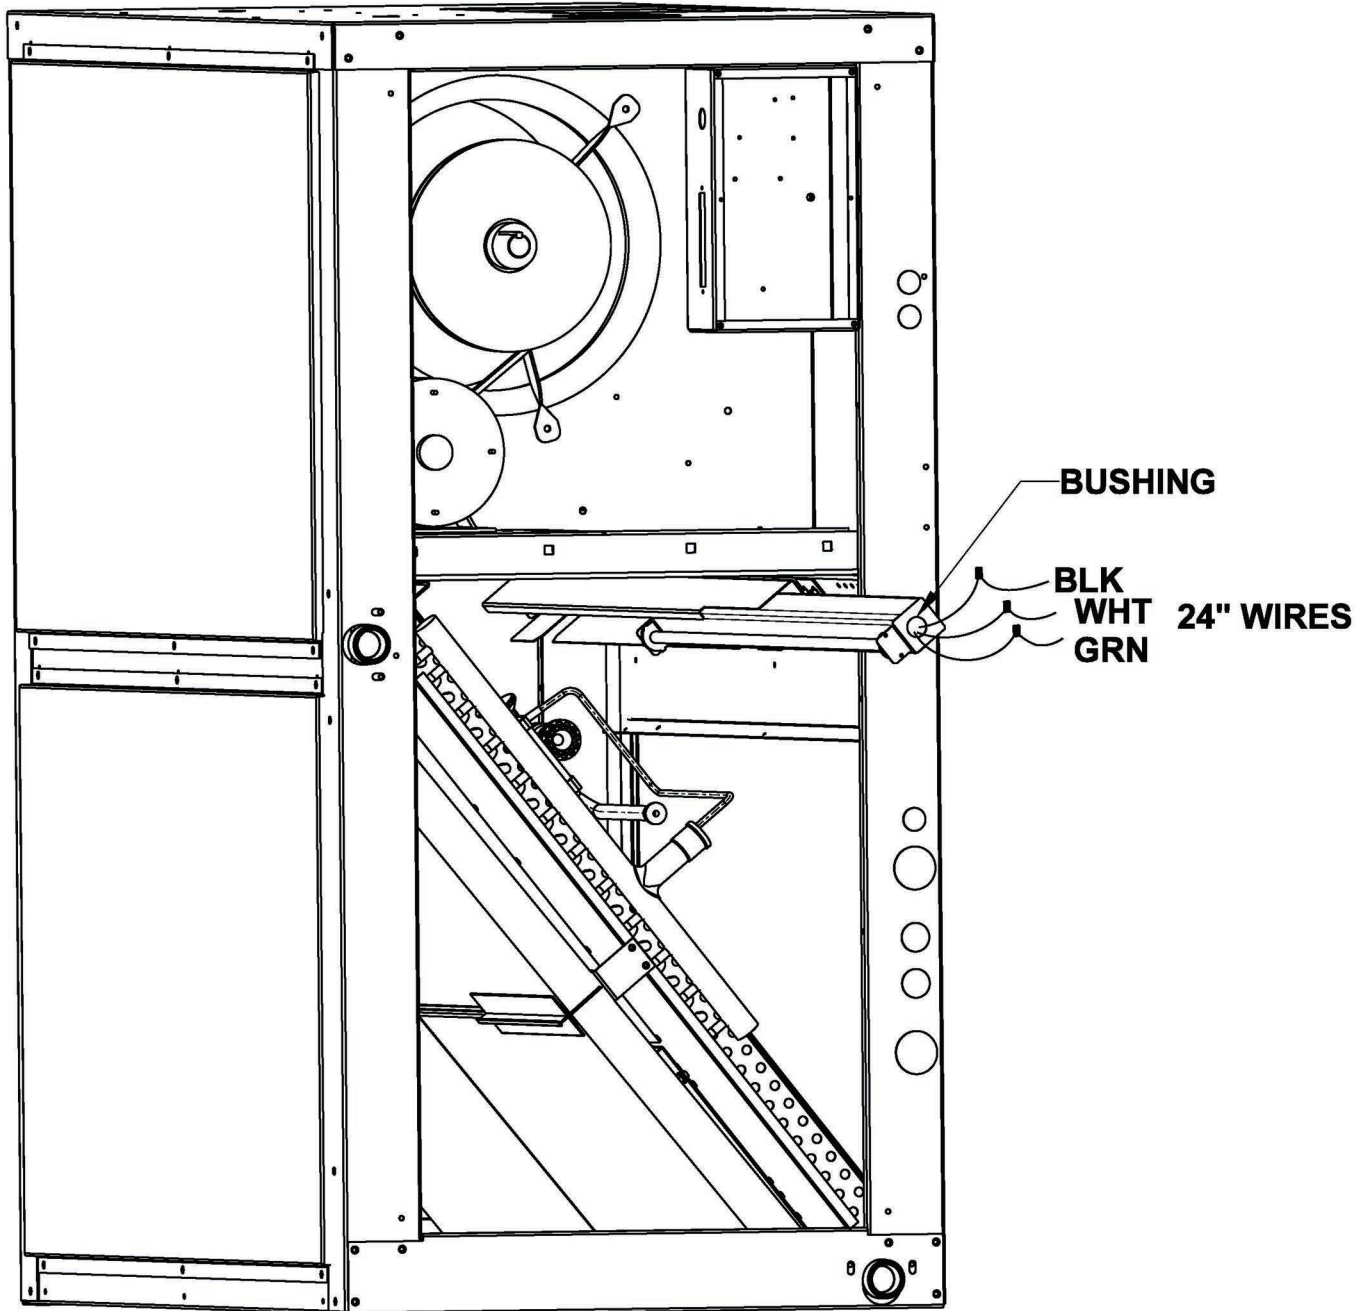

Fig. 5 — Wire Locations
4. For unit size 07-12 (072-120) locate UVC Light and install black, white and green 24 in. wires to the UVC leads with provided wire nuts. Use the bushing to protect against sharp edges. Slide the UVC Light into the track. (See Fig. 5 and Table 3).